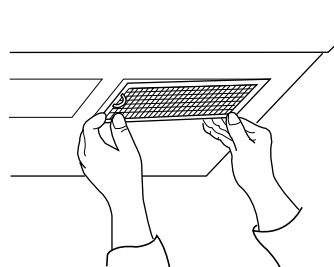

Figure 32
9. Grasp filter screen with one hand holding the ring and the other hand holding the opposite end. Insert the end of the filter screen without ring into the opening and slide towards the center of the microwave oven. Insert ring end of filter screen into the opening and slide entire screen towards the side of the microwave until screen is securely in position. Repeat for other filter screen. See Figure 32.